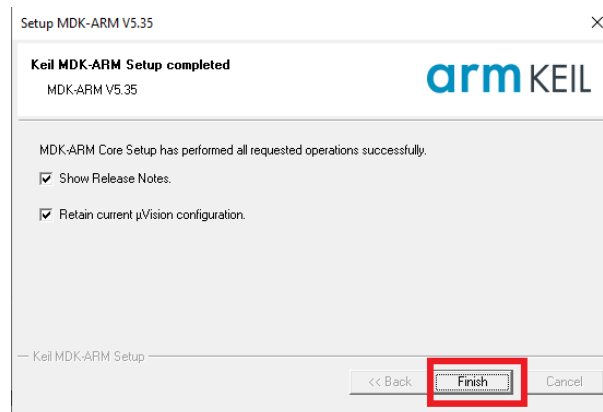

Figure 5
6. After successful installation, a window shown in Figure 5 pops up. Just click on Finish button.